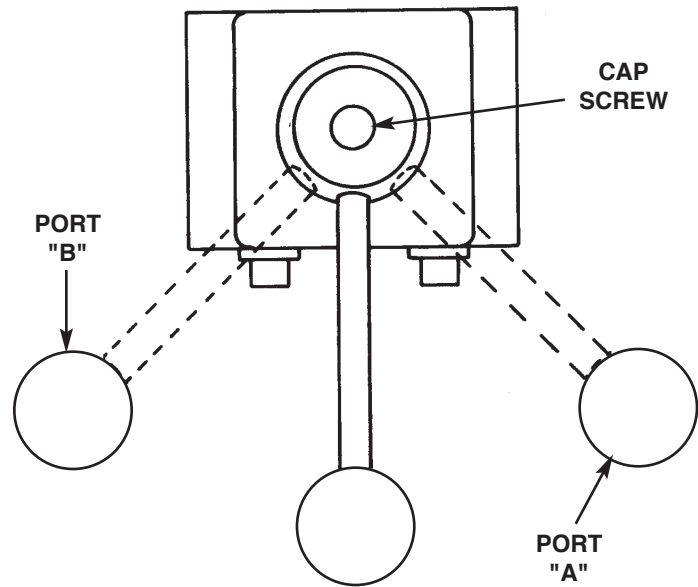

Figure 1
- Move the valve handle to any position by loosening the cap screw and rotating the stem in increments of $22\ 1/2^\circ$ to the position desired. Torque the cap screw 60/80 in. lbs. See Figure 1.